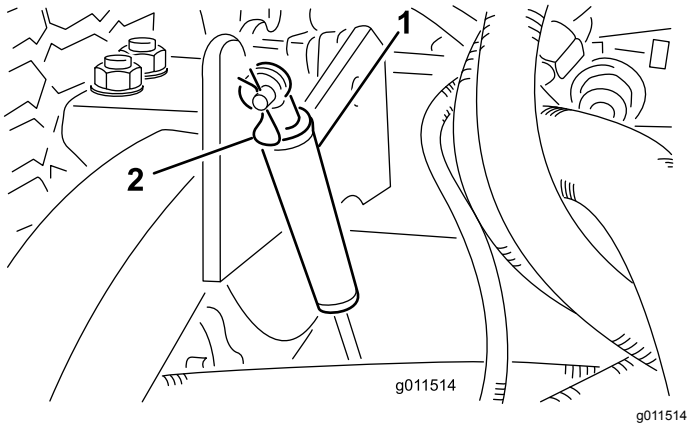

Figure 108
2. Remove the hairpin cotter securing the dampers to lift arms (Figure 108).